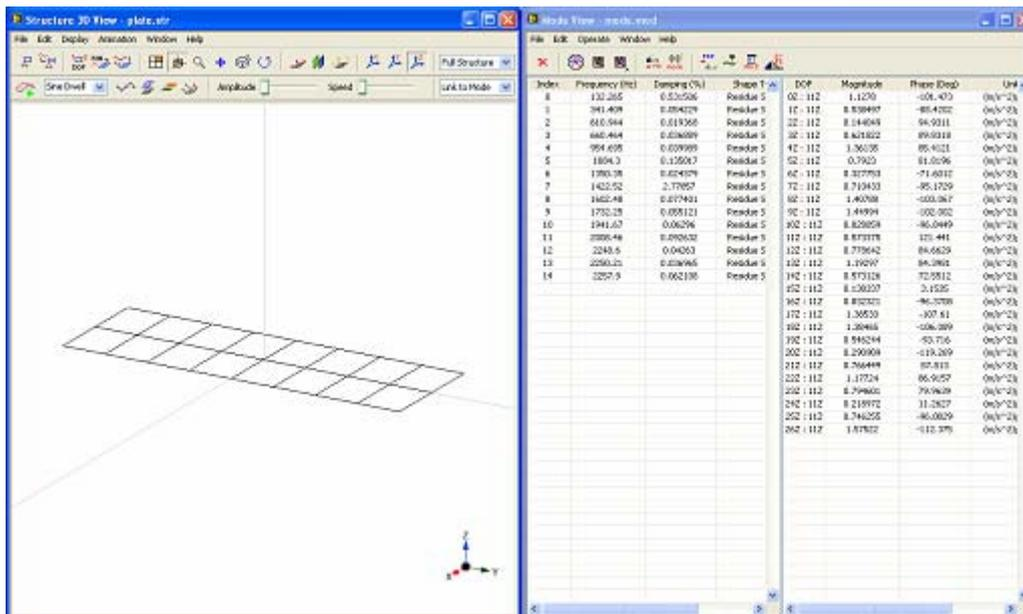

Figure 4-9 Mode shape animation
- Execute menu **File | Load...** in the mode viewer window, and load mode in the data block file list. The mode table with four modes is displayed in the window, as Figure 4-9 shows.